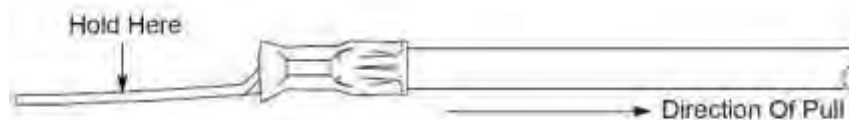

Figure 240
5. Gently pull wire as shown in Figure 240 and ensure wire does not come out of terminal lug.